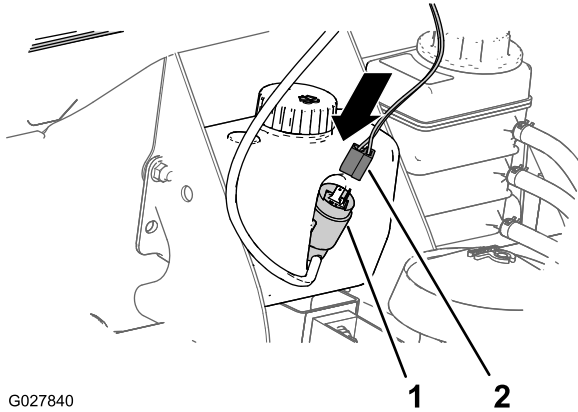

Figure 29
1. Align the 2-socket connector of the wire harness to the 2-blade connector of the washer pump (Figure 29).
2. Push the wire-harness connector onto the pump until the connector fully seats (Figure 29).